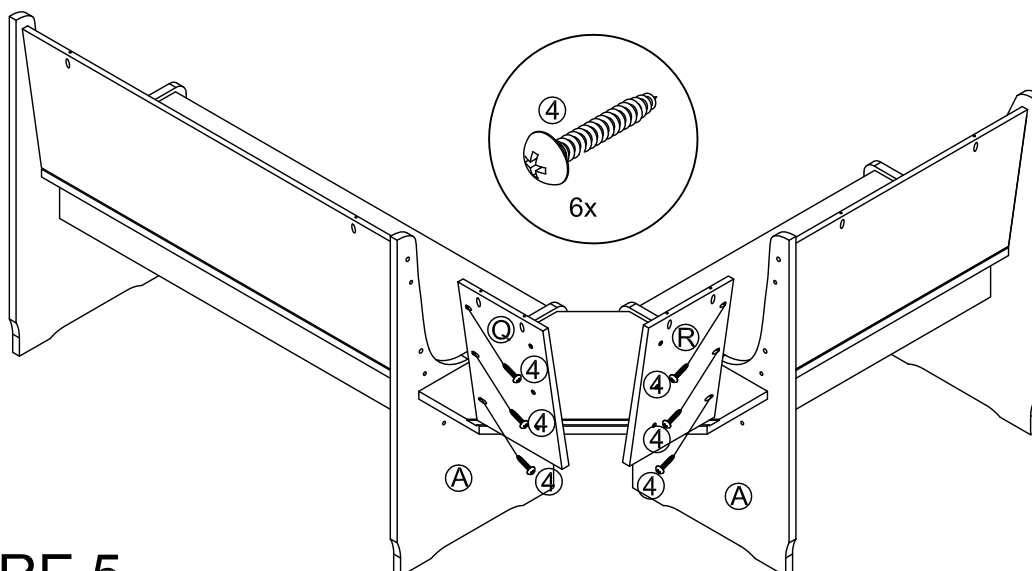

FIGURE 5
- 5.2 SECURE USING (06) SCREWS ④ AND PHILLIPS HEAD SCREWDRIVER (NOT PROVIDED), AS SHOWN IN FIGURE 5.